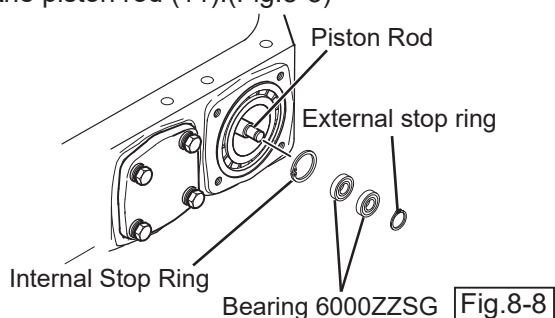

Fig.8-8
- a. First, insert the internal stop ring R-26 (17) to the piston rod (11). (Fig.8-8)